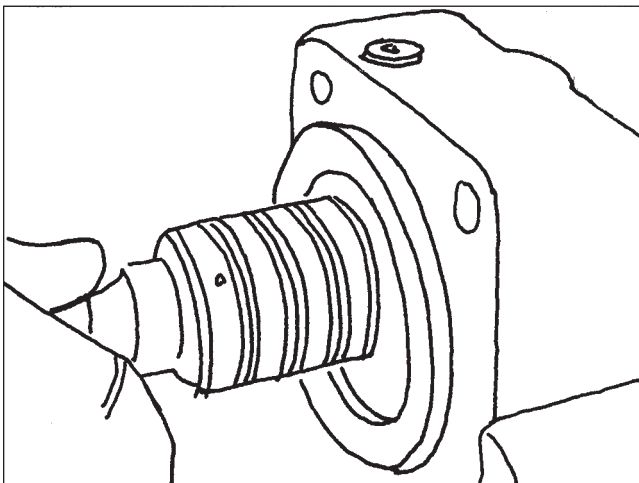

Figure 76
18. Review **Figure 76** and insure the thrust washers and roller bearings are installed on the shaft properly.